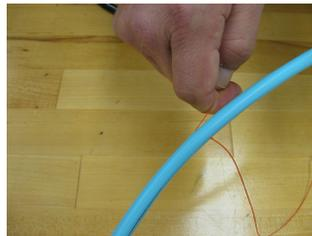

Figure 3 – Pull the ripcords through the cable jacket.
4.4 Pull the rip cords through the cable jacket utilizing a pair of needle nose pliers (Figure 3).